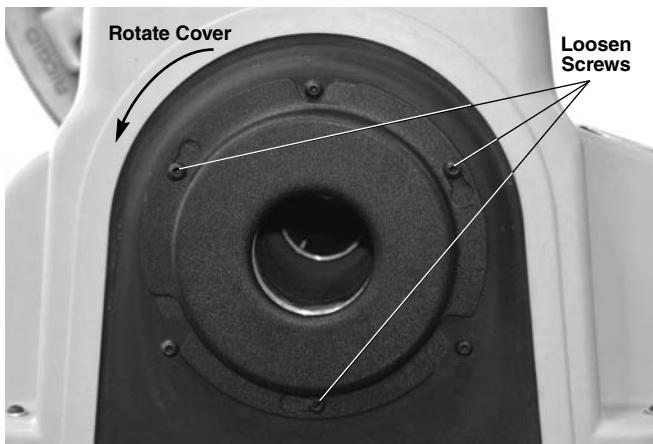

Figure 25A – Removing Rear Cover
- a. Make sure that the REV/OFF/FOR (2/0/1) switch is in the OFF (0) position and the cord is unplugged from the outlet.
- b. Remove rear cover. Loosen cover screws and rotate cover to remove (*Figure 25A*).